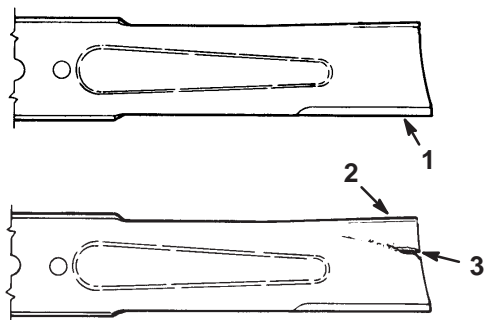

Figure 24
3. Inspect the cutting edges (Fig. 24). If the edges are not sharp or have nicks, remove the blade(s) and sharpen them; refer to Sharpening the Blade(s), page 15.
4. Inspect the blade(s), especially the curved area (Fig. 24). If you notice any damage, wear, or a slot forming in this area (Fig. 24), immediately install a new blade.